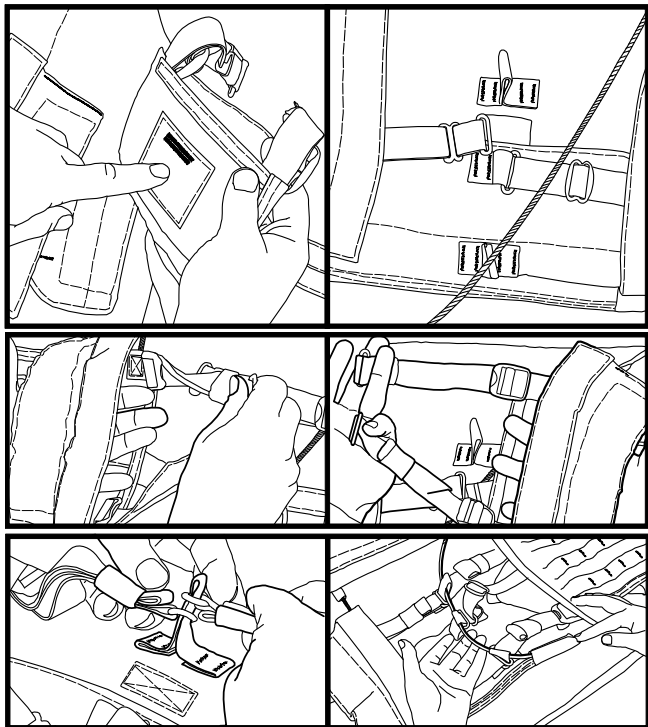

Figure 24. IOTV Cable Routing, Lower Panel.
21. Install the internal elastic bands and side plate carriers (Figure 24).